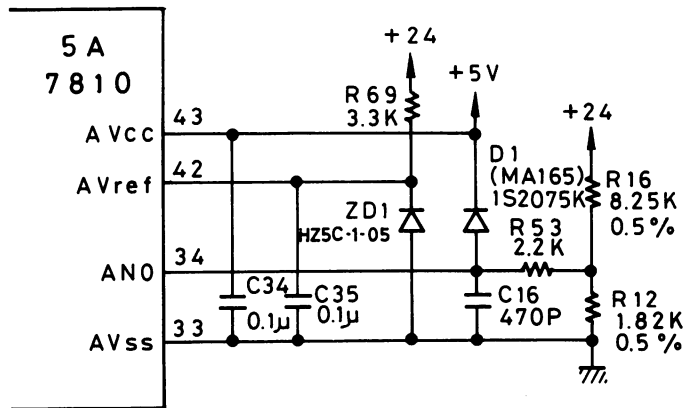

Fig. 2-27. AD Converter
2.3.7 AD Converter (Fig. 2-27)